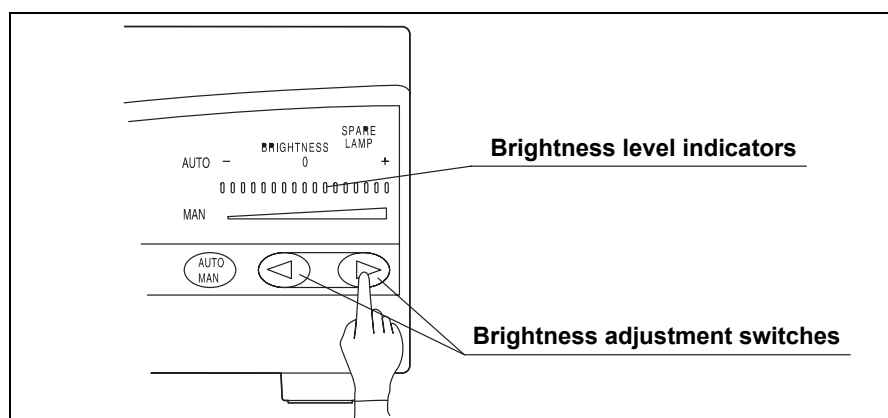

Figure 5.3
2. Press either of the brightness adjustment switches (“◀” or “▶”) to set the brightness to a level suitable for observation (see Figure 5.3).